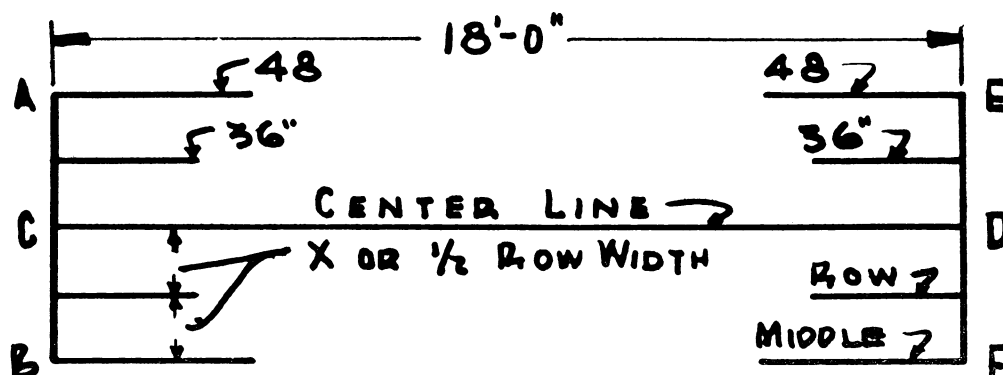

Figure 2. Line diagram for two-row implements.
7. Draw line EDF (Figure 2). This completes center line and two perpendicular end lines.
LAYING OFF ROW LINES: (See Figure 2)
Note: The line diagram, Figure 2, is for two-row implements. If four-row implements are used, lines AB and EF must each be four row widths long, as explained under point (2) on preceding page.